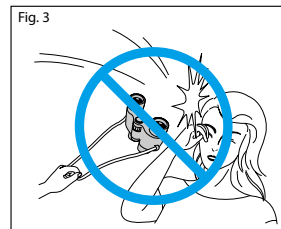

Fig. 3
- Do not swing the binoculars by their straps. They may hit someone and cause injury. (Fig. 3)